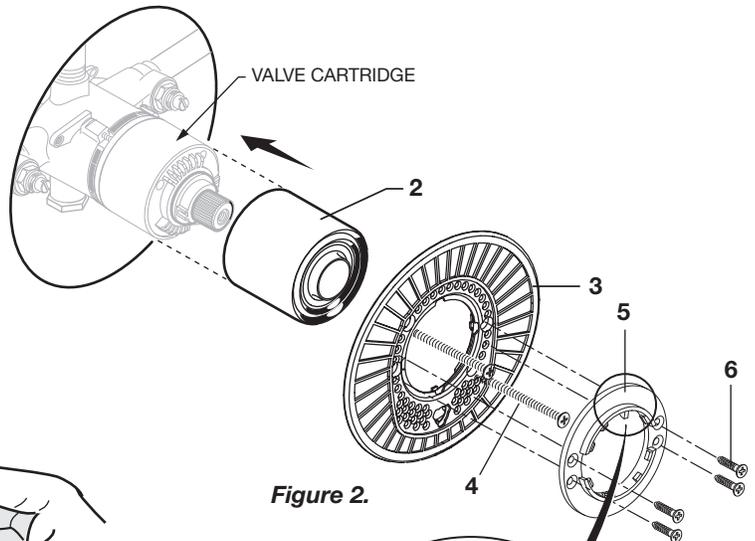

Figure 2.
- Turn CARTRIDGE STEM (2) to the OFF position (coldest setting) before making adjustment to HOT LIMIT STOP (1). Use a flat blade screwdriver to pry free the HOT LIMIT SAFETY STOP (1). Pull forward and rotate counterclockwise one number to limit hot water temperature. Use ARROW (3) on CARTRIDGE (4) and NUMBERS (5) on HOT LIMIT STOP (1) for indication.
- **Figure 2.** Push CAP (2) over VALVE CARTRIDGE until seated against stop.